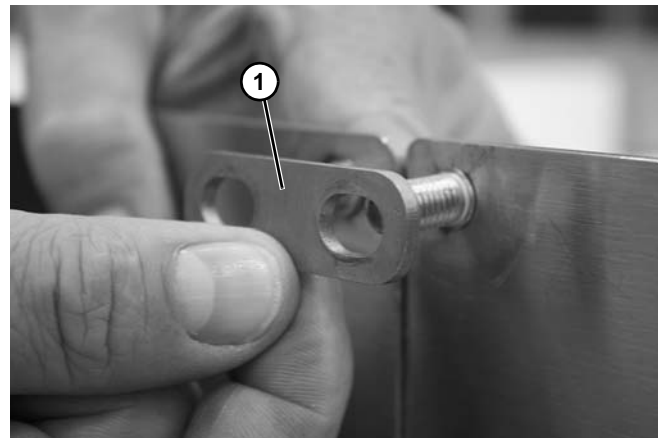

Figure 37
4. Install the connecting plate (**Figure 37, item 1**) over the studs.